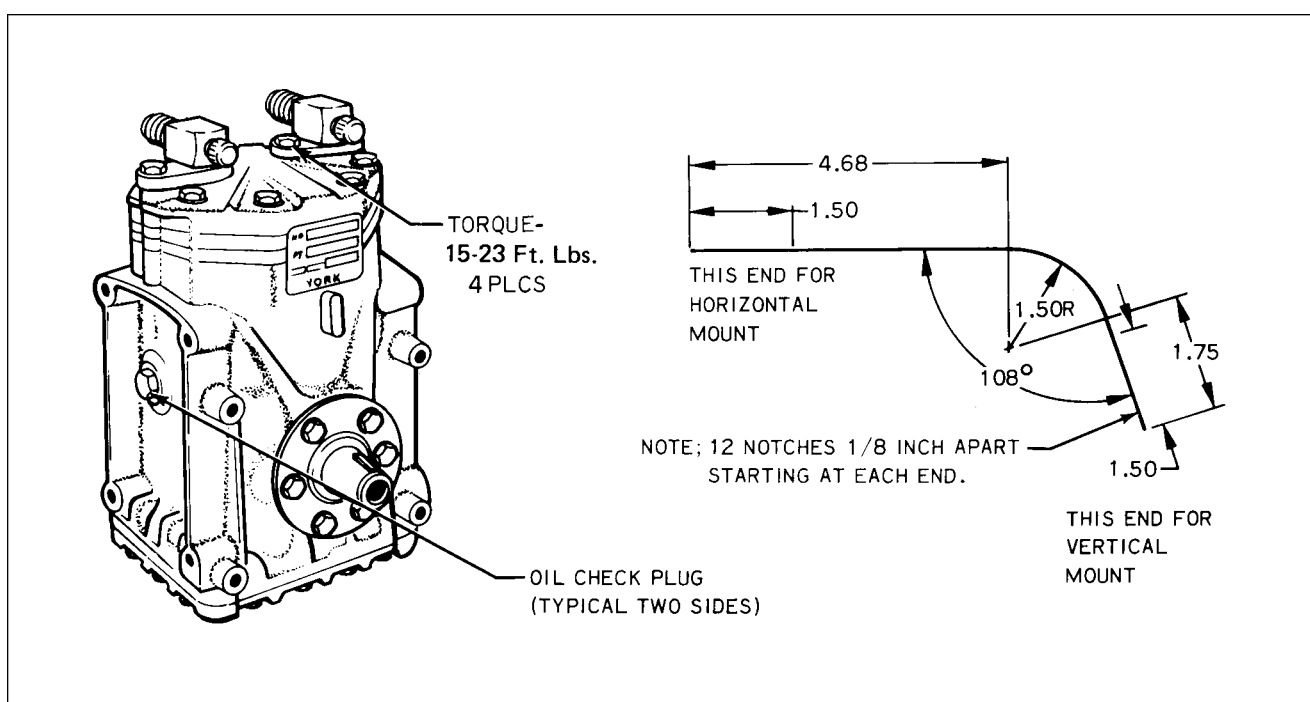

Figure 21-14. York Compressor and Fabricated Oil Dipstick (PA-28RT-201)
- B. Fabricate an oil dipstick. (Refer to Figure 21-14.)
- D. Before inserting the dipstick, the crankshaft Woodruff key should be located in the up position. (The front face of the compressor clutch is marked with a stamped “K” indicating the key position.) The oil level should be measured from the lowest point in the crankcase. Use the long end of the dipstick. (See Figure 21-14.)